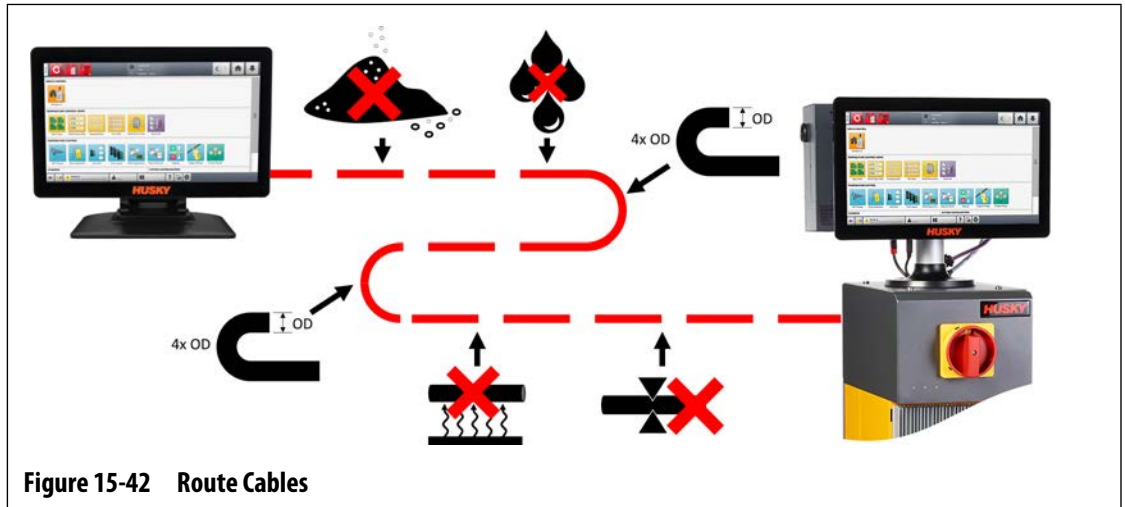

Figure 15-42 Route Cables
7. Route the USB and HDMI-to-DVI Extension cables from the MCU to the location of the secondary touch monitor. Refer to Figure 15-42.